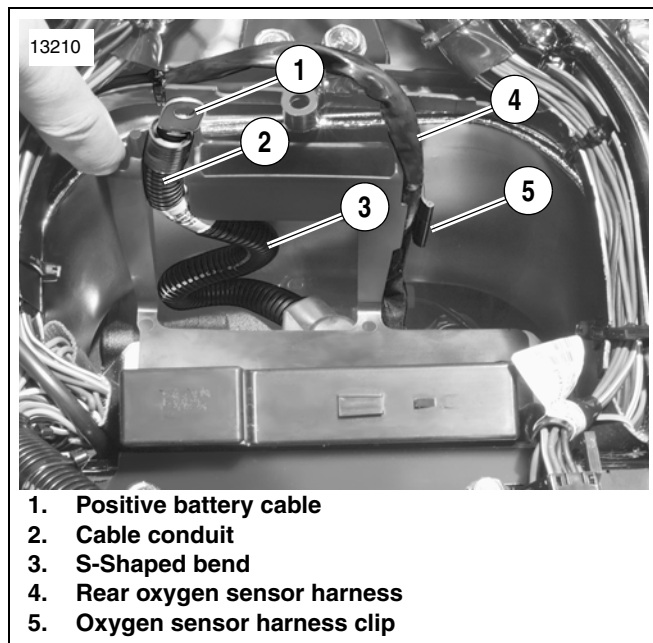

Figure 3. Battery Caddy Wiring
7. See Figure 3. Install positive battery cable (1) into clip in caddy. Be sure S-shaped bend (3) in cable is present and cable conduit (2) is positioned adjacent to terminal as shown.
8. Route rear oxygen sensor harness (4) through clip (5).